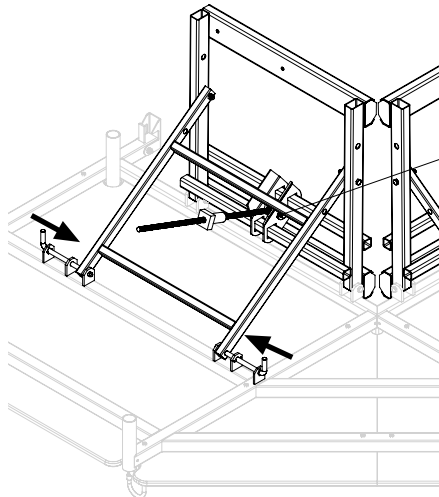

Fig. A9.03
1. Fold down and lock the supports (9.1). (Fig. A9.03/A9.04)